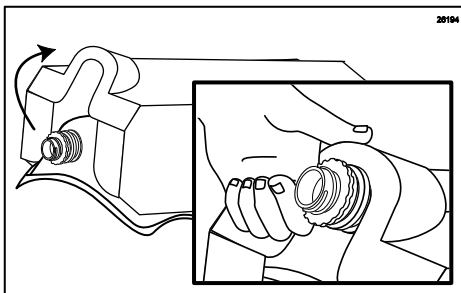

Figure 44
7. Place the tray up-side-down over the bag and pull the fitment into the tray opening as shown. The grooves of the bag fitment should slide into the tray opening. (See Figure 44.)